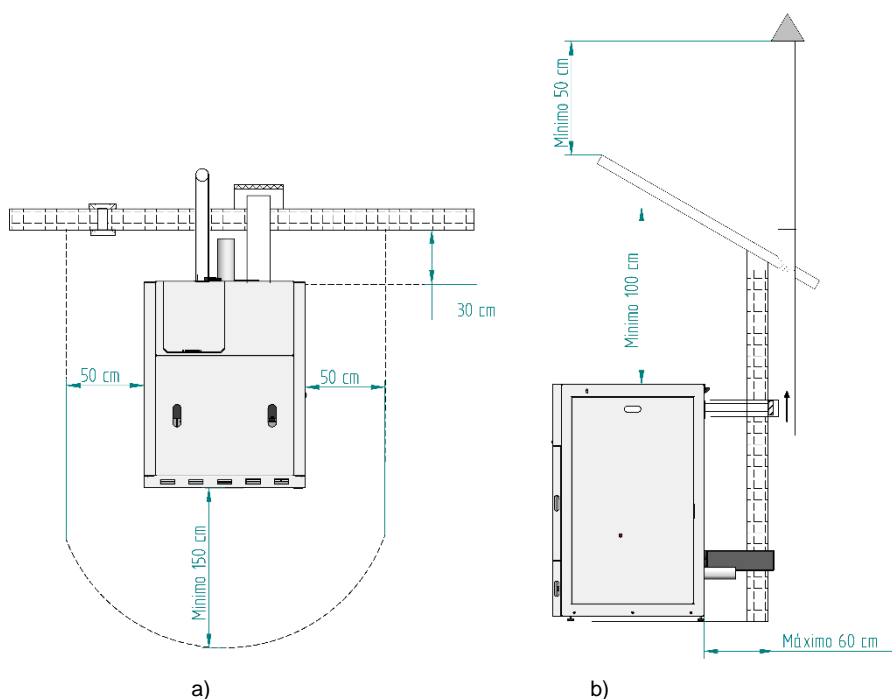

Figure 4 – Minimum distances from all surfaces: a) upper view of the unit's installation; b) side view of the unit's installation
- As indicated in Figure 4, the exhaust duct must be assembled so as to permit its cleaning and maintenance through the inspection points.